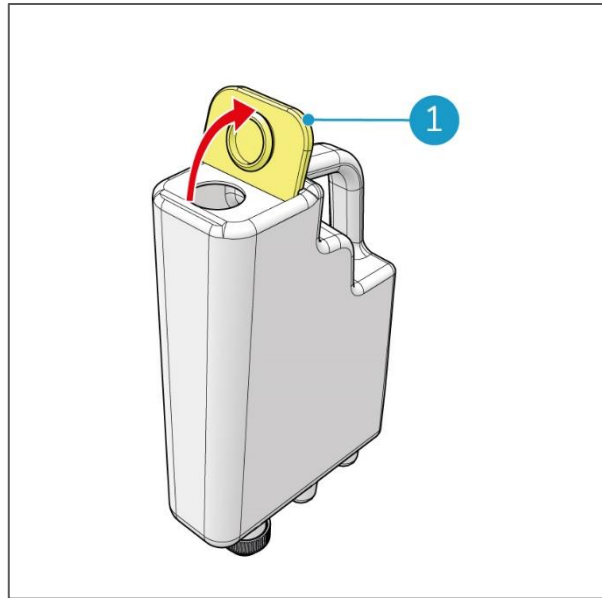

Figure 21
2. Open the yellow filler cap (Figure 21, pos 1).